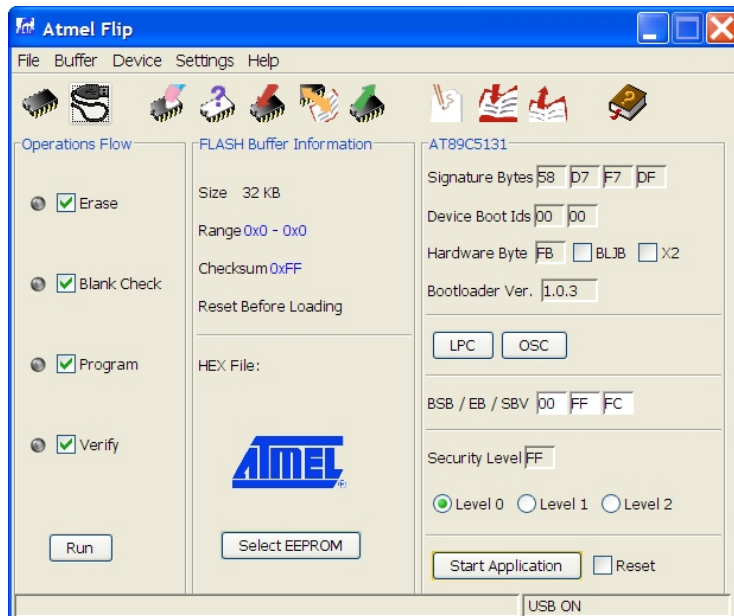

Fig. 2. The main window of the program FLIP
2. The main window FLIP (Fig. 2);